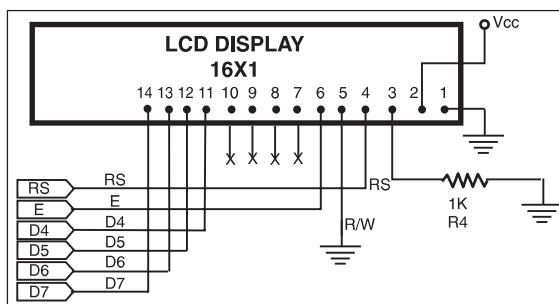

Fig. 4: LCD display unit
**LCD display unit (Fig. 4):** LCD display is a single-line, 16-character unit. This is a standard unit available in local market. Interface with micro-controller is accomplished via four data lines D7-D4 and two control lines RS and E. Using these six lines, micro-controller displays all messages and telephone numbers. The signal names used here are the same as used by the LCD module/driver manufacturers. Pin configuration for a typical 16-character x 1 line module is shown in Table III.